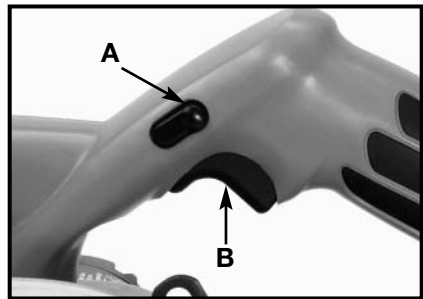

Fig. 3
The trigger switch is equipped with a “lock-off” button (A) Fig. 3. This “lock-off” button extends through the upper handle area, and may be depressed from either the left or the right side of the handle. Depress either end of this button to release the “lock-off” feature, allowing the trigger switch to be engaged.
1. **TO START THE SAW** – Depress and hold either end of the “lock-off” button (A) Fig. 3, then squeeze the trigger switch (B) Fig. 3 to start the saw. (The “lock-off” button may be released as soon as the trigger switch is squeezed).